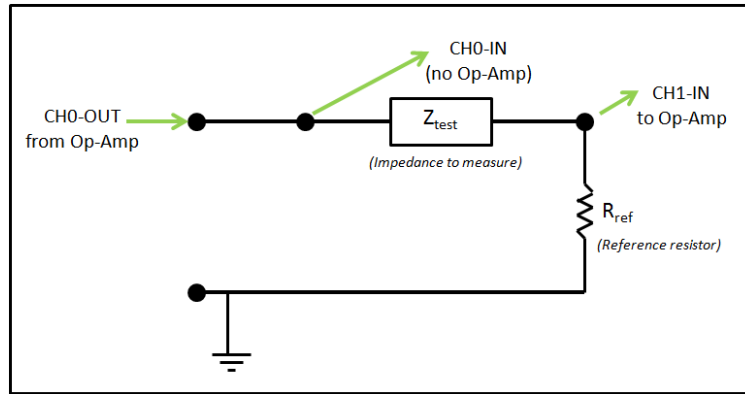
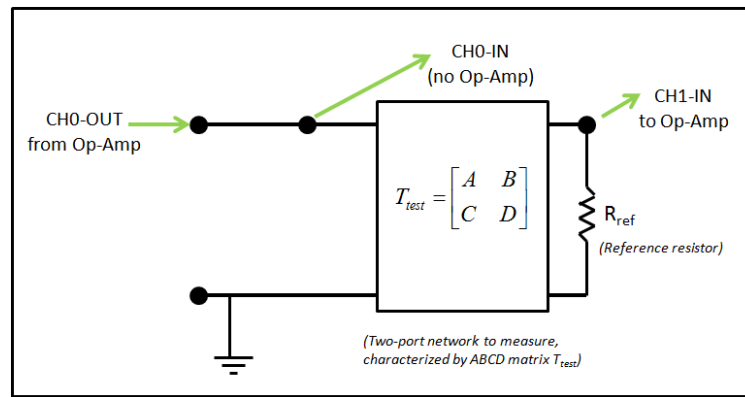

Figure 5: Circuit to measure a test impedance. The reference resistor R_{ref} should have an impedance magnitude similar to the test impedance.
Figure 6: Circuit to measure a 2-port network. The reference resistor R_{ref} should have an impedance magnitude similar to the test impedance.
2. Impedance-measurement circuit: Build the circuit shown in Figure 5, connecting to the op-amps and the MU box as shown in the diagram. Using a voltage divider with a reference resistor R_{ref} , you will be able to measure an unknown impedance Z_{test} .
- Place a “test resistor” (of known impedance) in series with the reference resistor R_{ref} . Your test resistor should occupy the place of Z_{test} in Figure 5.
- Use two inputs (into the MU-box), taken across the ‘test resistor’ terminals. CH0-IN should be connected to the “high” side of the speaker, and CH1-IN connected at the place where the speaker and reference resistor are joined, as described in Fig. 5.
NOTE: Every time you set up your lab circuit for the day, we suggest that you do a quick test with a resistor, as in Lab 1 (Fig. 5) to make sure everything is running properly!!!
You will measure two networks provided to you, a **low-pass filter** and a **twin-T** network. Your test circuit should be a slightly modified version of the circuit from Lab 1 (Fig. 5), as shown in Figure 6. The primary difference is that the unknown two-port network you want to test has a ground terminal. The relationship between the two sides of the unknown two-port is given by the transmission matrix
This is the first lab to work with a real loudspeaker, shown in Figure 7. These speakers are of low quality (the cone is made of cardboard!), but you will still be able to recognize audio signals you play through them. In this lab you will measure the electrical input impedance Eq. 1, where V is the voltage across the speaker and I is the current through it. The loudspeaker will be in **series** like your resistor from Lab 1, so you should connect the loudspeaker according to Figure 5. The loudspeaker has two terminals; the direction of the terminals should not matter.